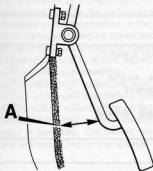

Fig. 3.44. Accelerator pedal height - dimension 'A' should be 2 in (50 mm). (Sec. 14)
- the dimension shown in Fig. 3.44 by turning the pedal stop in or out.